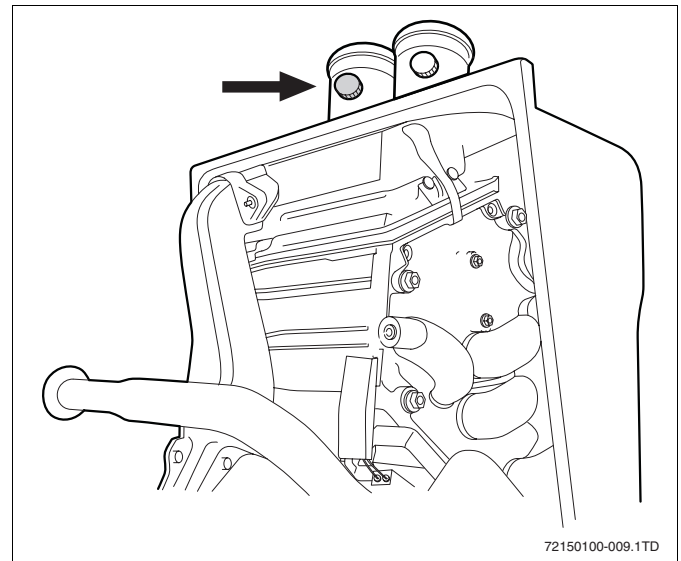

Fig. 10 Flue gas sampling point
3.5 Measuring the carbon monoxide content (CO)
- ▶ Measure the carbon monoxide content on the flue gas sampling point (→ fig. 10).